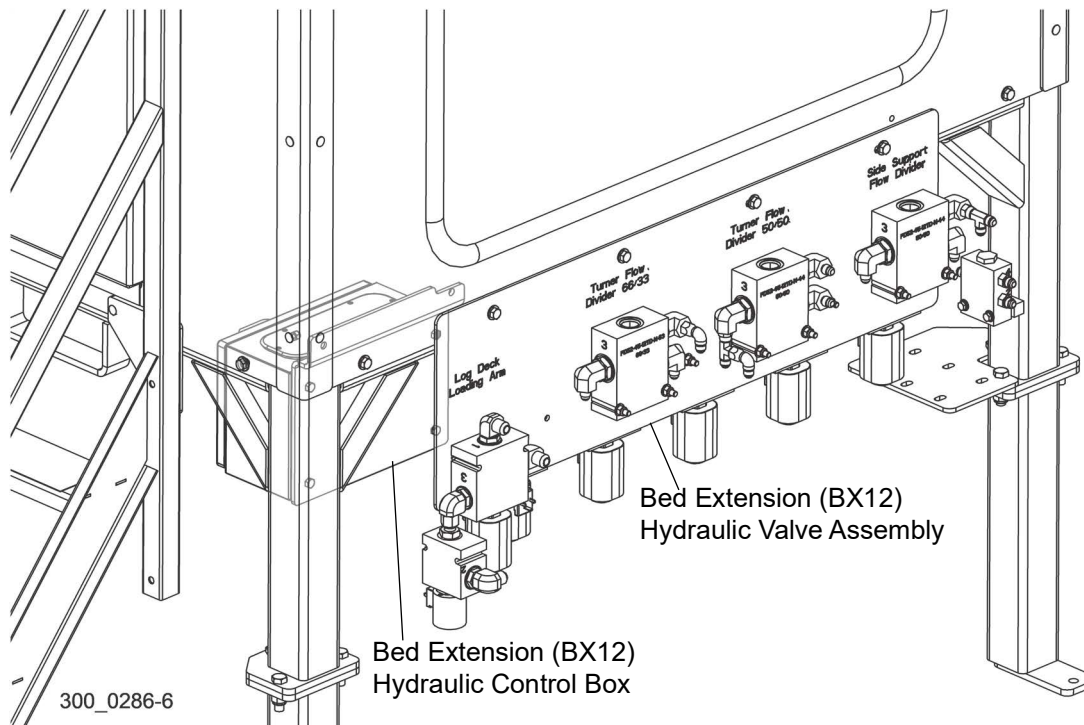

FIG. 3-30
3. Install the bed extension directional valve assembly to the hydraulic power unit, as shown in Figure 3-30.